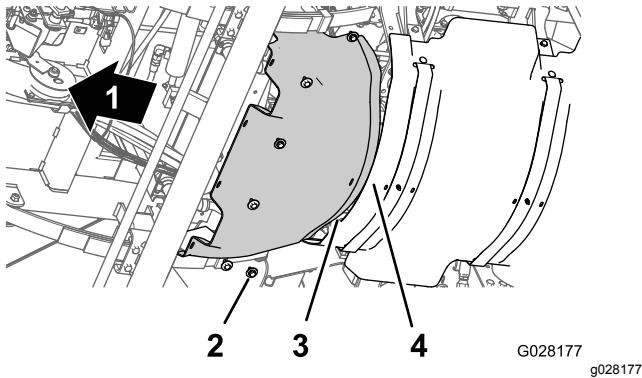

Figure 59
1. Align the rear flange of the forward heat shield over the forward flange of the rear heat shield (Figure 59).
2. Align the holes in the forward heat shield with the threaded holes in the chassis (Figure 59).
3. Assemble the forward heat shield to the machine with the 6 hex-head bolts and 6 washers (Figure 59) that you removed in step 3 of Removing the Forward Heat Shield (page 50).